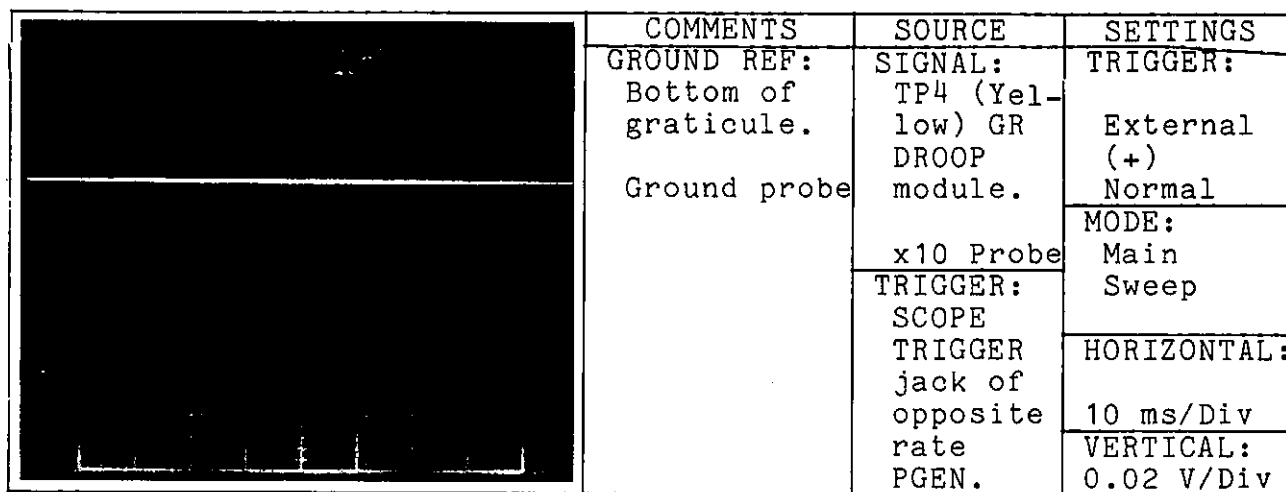

Figure 2.24. DC Reference Level
f. Record the DC Reference level (see Figure 2.24). This DC reference level should be in the range of +0.9 to 1.1VDC.
h. Do not readjust R12 again. Adjust R1 clockwise until the ladder waveform just disappears (DC level signal) see Figure 2.24.